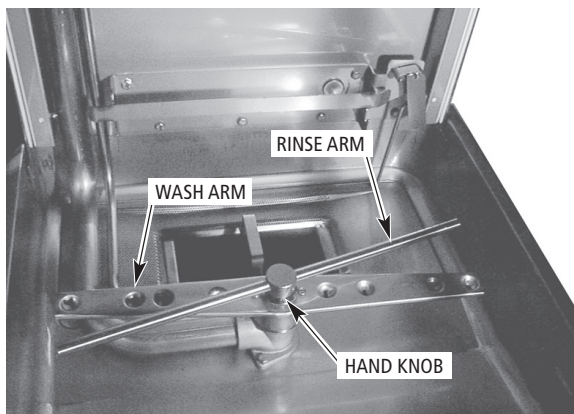

Figure 21
10. Remove and check wash arms and rinse nozzles (*Figures 21 & 22*) to make sure they are free of any lime and solids. Refer to Maintenance, page 18.
Upper and lower wash and rinse arms (*Figures 21 & 22*) should turn freely and continue turning for a few seconds after being whirled by hand. To check, rotate arms and remove any obstructions causing improper operation.
To remove the lower wash arm, unscrew the hand knob and lift the rinse arm off (*Figure 21*). The wash arm can be lifted off once the rinse arm is removed.